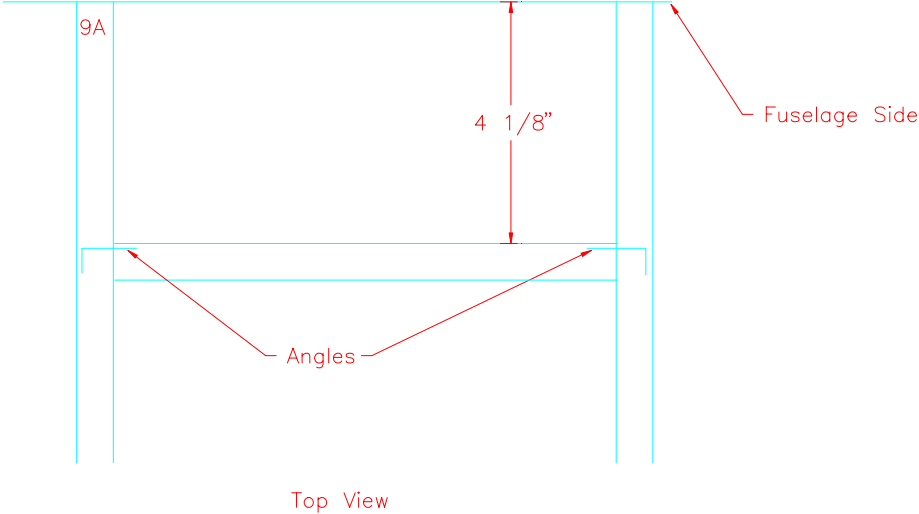

Figure 15.8.2
3) Cut two angles from (ST-31) for attachment and attach channel into position. Rivet angles similar to the floor channels using 1/8" x 3/16" avex rivets (RV-1410). Figure 15.8.2.